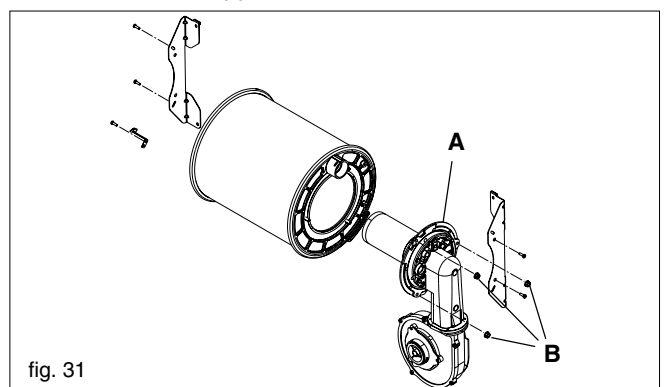

fig. 31
Fig. 31: To remove the fan burner assembly (A) locate and remove the 3 external nuts (B). Replace in the reverse order. Ensure all seals are in good condition, taking care to ensure they are replaced correctly.